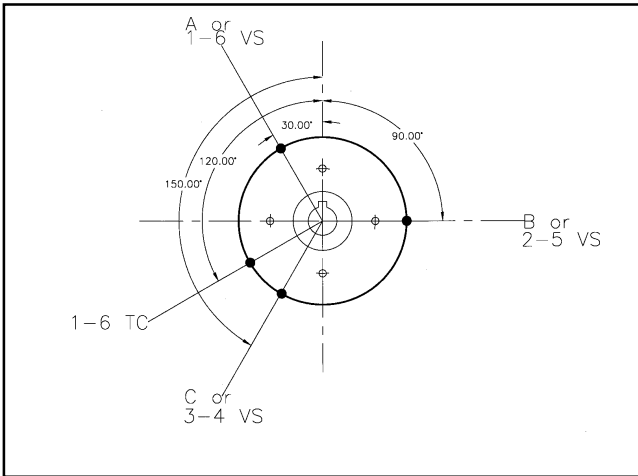

Fig 7-2. Accessory drive pulley marking—N-855/N-743
1. Bar the engine until "A" or 1-6 "VS" mark on the pulley, Fig. 7-2, is aligned with the pointer on the gear case cover. In this position, both valve rocker levers for cylinder No. 5 must be free (valves closed). The injector plunger for cylinder No. 3 must be at top of its travel; if not, bar the engine through 360 degrees. realign the mark with the pointer.